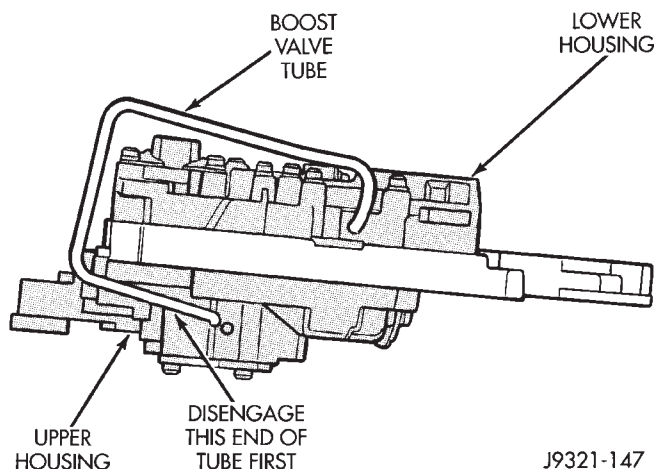

Fig. 112 Boost Valve Tube Removal
(24) Remove boost valve connecting tube (Fig. 112). Disengage tube from upper housing port first. Then rock opposite end of tube back and forth to work it out of lower housing.